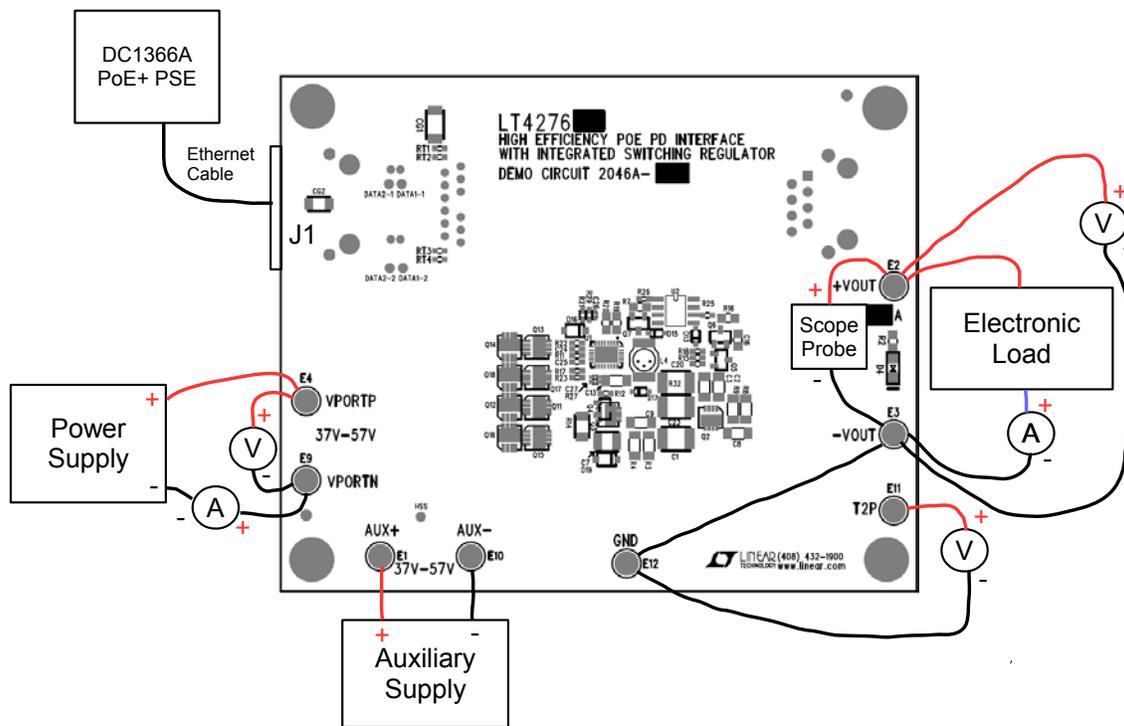

Figure 8. Proper Measurement Equipment Setup
Demonstration circuit 2046A-C is easy to set up to evaluate the performance of the LT4276 in a PoE+ application. Refer to Figure 8 for proper equipment setup and follow the procedure below:
1. Place test equipment (voltmeter, ammeter, power supplies, and electronic load) as shown in Figure 8.
- a. Connect a PoE+ capable PSE with a CAT-5 cable to the RJ45 connector, J1. See Figure 8.
- b. Or, connect a 37V to 57V capable power supply (Power Supply in Figure 8) across V_{PORTP} and V_{PORTN} .
- c. If evaluating the auxiliary power supply (Auxiliary Supply in Figure 8), connect a 37V to 57V capable power supply across $AUX+$ to $AUX-$.